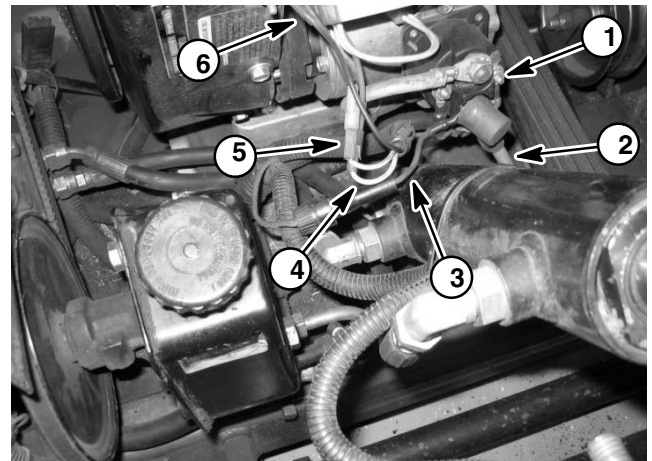

Figure 6
A. Remove positive battery cable and fused harness wire (red) from the starter motor solenoid stud (Fig. 6).
B. Disconnect harness alternator wire (white), fuel solenoid wire (white/red) and magneto ground wire (black) from engine (Fig. 6).